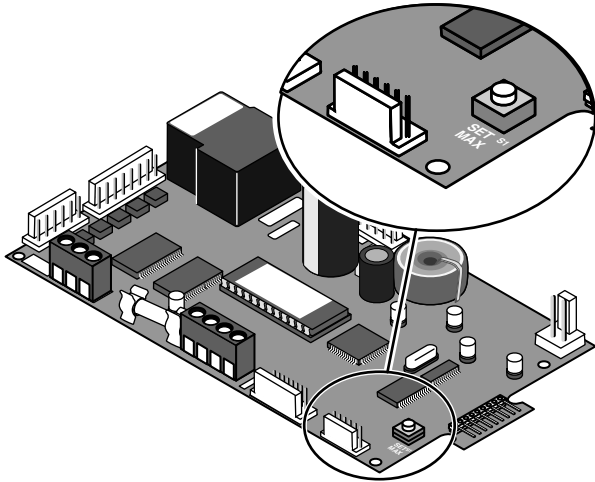

Figure 2-15: Maximum Temperature Set Point
4. Push the Maximum Temperature Set Point button on the back of the control board (See Figure 2-15). The following sequence should happen: